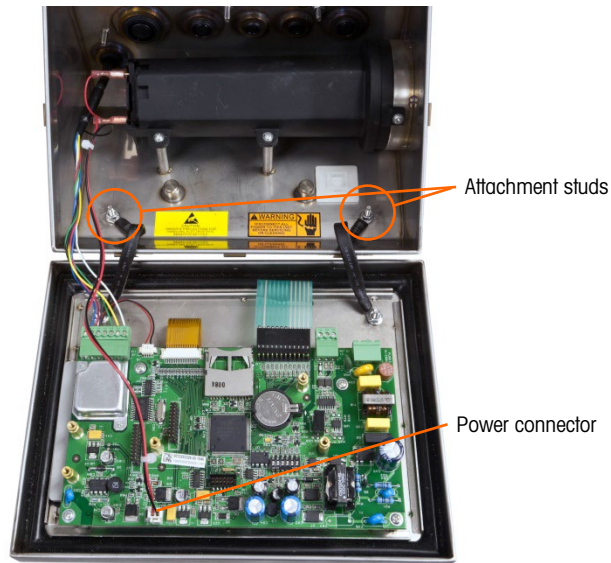

Figure A-7: Preparing to Detach Front Panel
1. Open the enclosure as detailed in the Opening the Enclosure section. For steps 3 to 6, refer to Figure A-7.